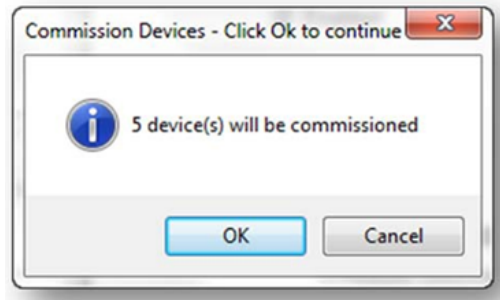

Figure 36. Commission Devices Confirmation
2. A dialog opens indicating how many devices will be commissioned. This is shown in Figure 36.